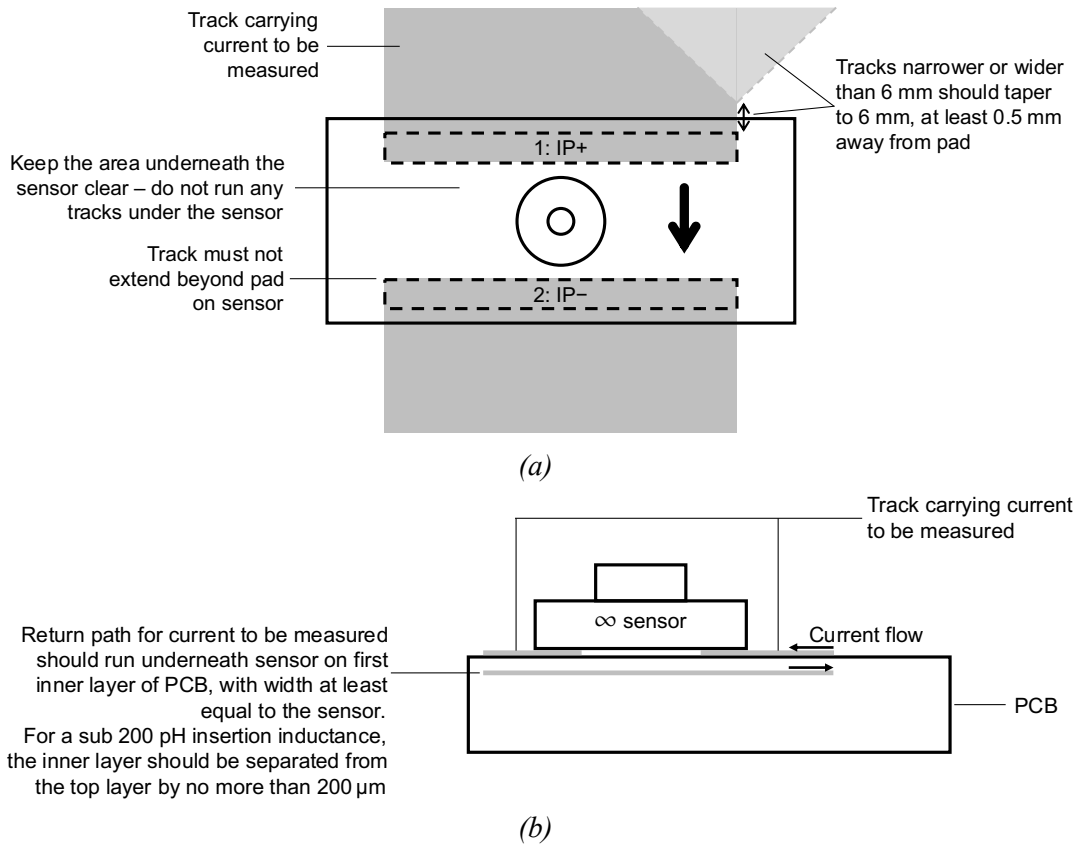

Figure 2: Circuit board layout guidelines – (a) top view, (b) side view
(1) When mounted according to the guidelines shown in Figure 2
In order to achieve the specified performance characteristics, including the insertion inductance of under 200 pH, and to keep potentially interfering currents away from the sensor, it is important to follow the circuit board layout guidelines as shown in Figure 2.